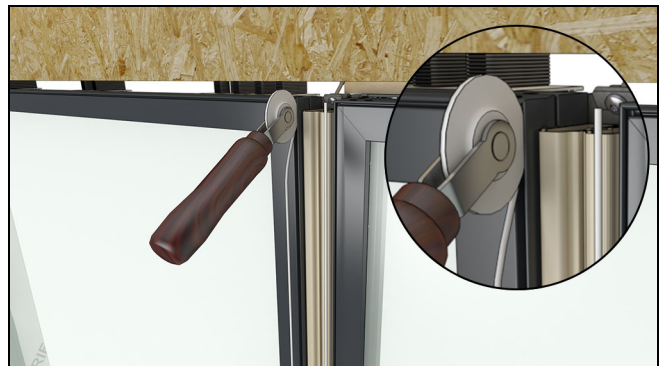

Figure 101
22. Using a screen spline roller or similar tool, apply frame kerf weather strip in the frame kerf along the mull. See Figure 101.